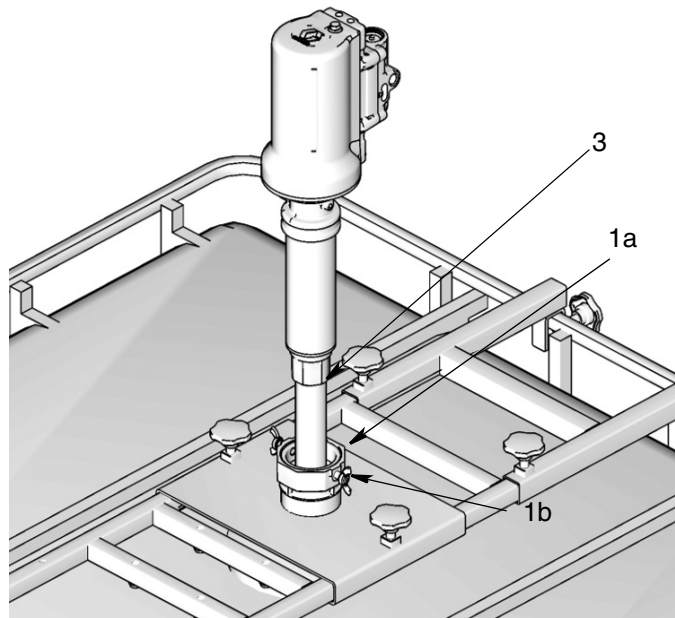

FIG. 11
3. Insert the pump suction tube (3) through the bung adapter (1a) and into tank (FIG. 11). Secure the
pump in place by tightening the gasket screws (1b) (FIG. 11).